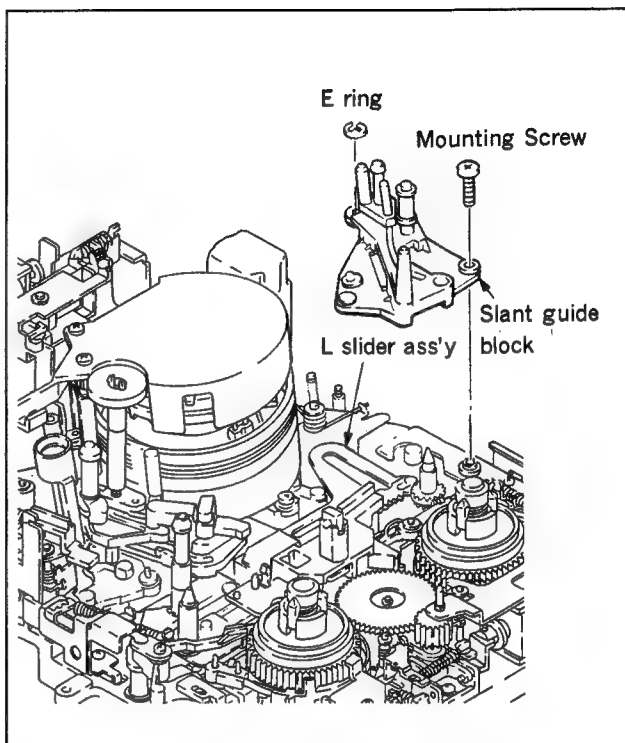

Fig. 4-12-2 Slant guide block removal
2. Slant guide block removal (Fig. 4-12-2)